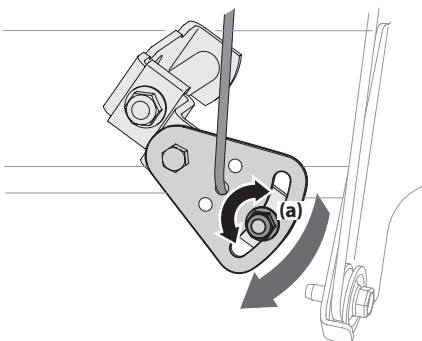

Figure 4-9
- Loosen hex nut (a) on shift cable index bracket. See Figure 4-9.